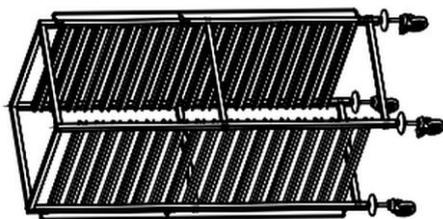

Fig. 2
10. Finally, screw swivel casters into square tubing of lateral sections. (Fig. 2)